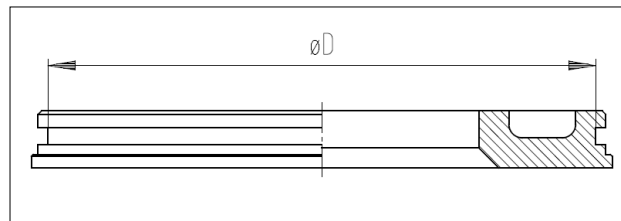

Fig. C-3 Back cover diameter measurement
- 2) Measure diameter of and cover (Fig. C-3) Difference between the cover and cylinder diameter must be in range from 3,10mm to 3,50mm. If the difference is bigger, oversized cover P/N B-1130-00 must be used.